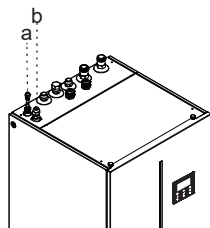

Fig.5-2
- If the indoor unit is matched with outdoor unit (4/6kW), the transfer 9.52-6.35(Refer to the table in Page 8) should be mounted on the refrigerant liquid connection of indoor unit(Refer to Fig.5-2); The transfer is not used in other types of outdoor unit(8/10/12/14/16kW).